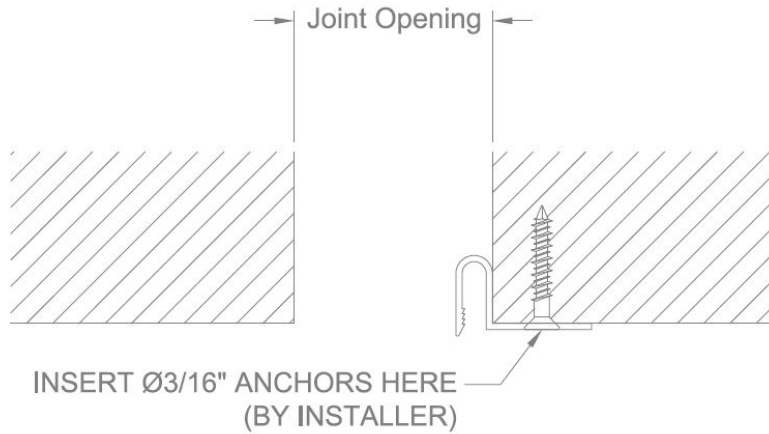

FIGURE 2
2. Once all holes have been predrilled, attached clips with appropriate anchors (by installer). **See Figure 2.**